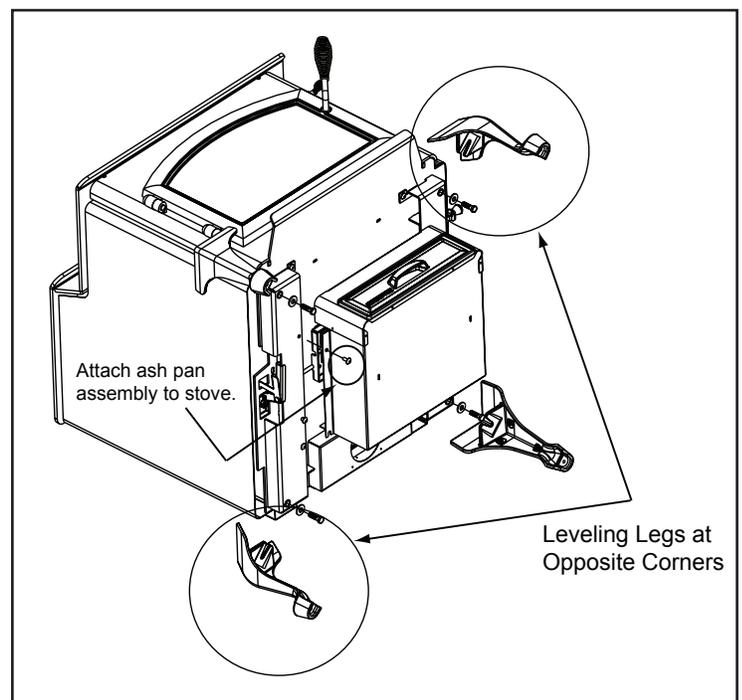

Figure 43.2
3. Slide the ash pan assembly bottom slots over the screw heads. This allows the weight of the ash pan to rest on the screws while you are attaching the top 2 screws. Once the ash pan is attached, tighten all screws. **Figure 43.2**.
3. Loosely assemble bolts into the corner of the mounting brackets for leg attachment. **Figure 43.2**.
4. Slide legs onto mounting brackets. Making sure the legs are up against the bracket and secure with bolts supplied. There are leveling bolts in 2 legs. These leveling legs should be in opposite corners. **Figure 43.2**.